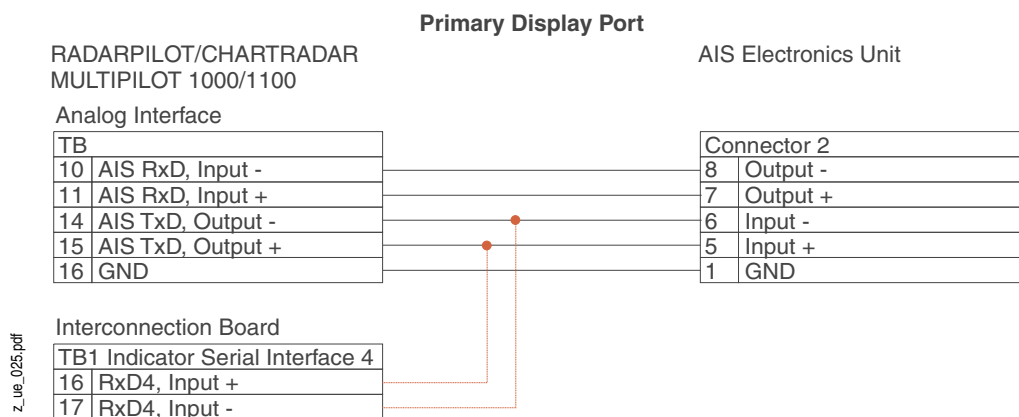

Fig. 6-1 Cable connection for the interface monitoring Radar > AIS
2. Connect the AIS output TB14 and TB15 of the Analog Interface additionally to an indicator serial interface (TB1) of the radar. If there is a free input, this one should be used. If all inputs are used, one of them must be disconnected. Figure 6-1 shows the connection to the serial interface No. 4 as an example.
2. Connect the AIS Primary Display Port TB7 and TB8 additionally to an indicator serial interface (TB1) of the radar. If there is a free input, this one should be used. If all inputs are used, one of them must be disconnected. Figure 6-1 shows the connection to the serial interface No. 4 as an example.